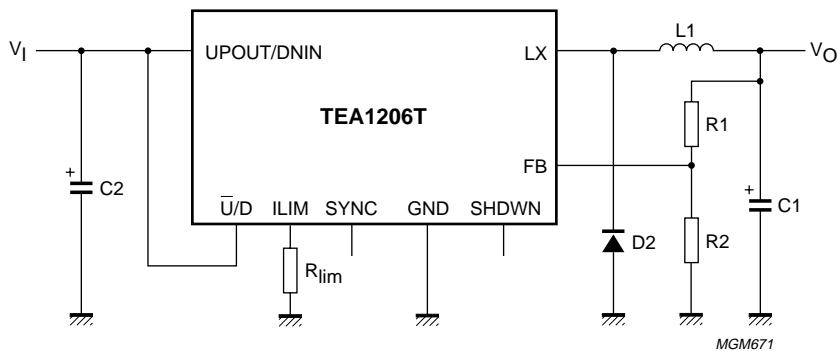

Fig.7 Complete application for downconversion.
- Downconversion (see Fig.7): the output voltage will get lower than the lower window limit when the input voltage is lower than this limit plus the voltage drop over the P-type FET. In that case, the P-type FET will stay conducting (100% duty cycle) resulting in V_o being equal to V_i minus some resistive voltage drop. The input voltage must not be lower than 2.8 V. The current limit function remains active.